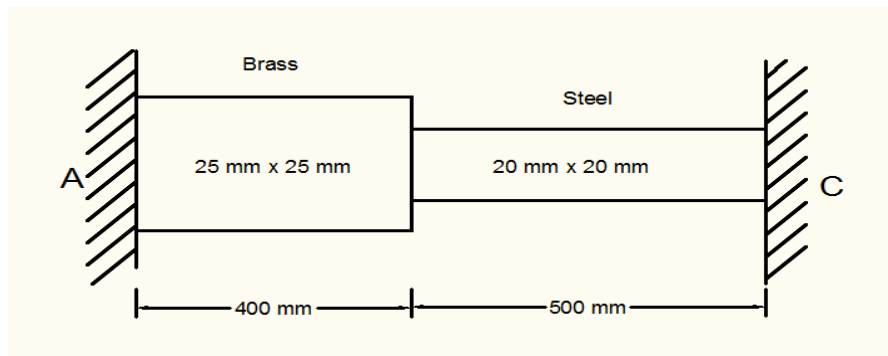

Fig : 1
1. a) Explain the stress-strain curve of a mild steel bar in tension test. (5)
b) A straight bar 450 mm long is 40 mm in diameter for the first 250 mm length and 20 mm diameter for the remaining length. If the bar is subjected to an axial pull of 15 kN find the maximum and minimum stresses produced in it and the total extension of the bar. Take $E = 2 \times 10^5 \text{ N/mm}^2$. (5)
2. A bar made of brass and steel as shown in Fig.1 is held between two rigid supports A and C. Find the stresses in each material if the temperature rises by 40°C . Take $E_b = 1 \times 10^5 \text{ N/mm}^2$; $\alpha_b = 19 \times 10^{-6} / ^\circ\text{C}$, $E_s = 2 \times 10^5 \text{ N/mm}^2$; $\alpha_s = 12 \times 10^{-6} / ^\circ\text{C}$